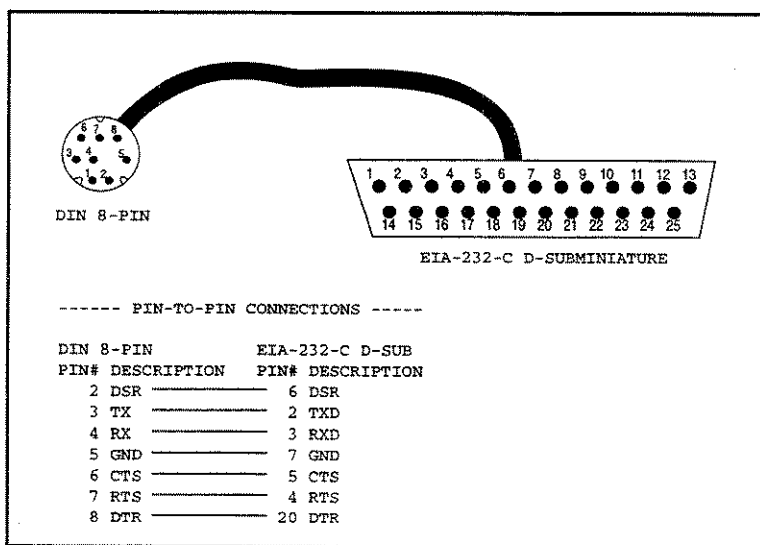

Figure 4.1.B Printer Cable Pin Assignments
- 3) Confirm the test set's serial port settings match those of your printer. The switches to configure your printer's serial port and print characteristics are usually located on the back or bottom of the printer. If you are using the Sunrise Telecom thermal printer, refer to Figure 4.1.C for the correct switch settings.